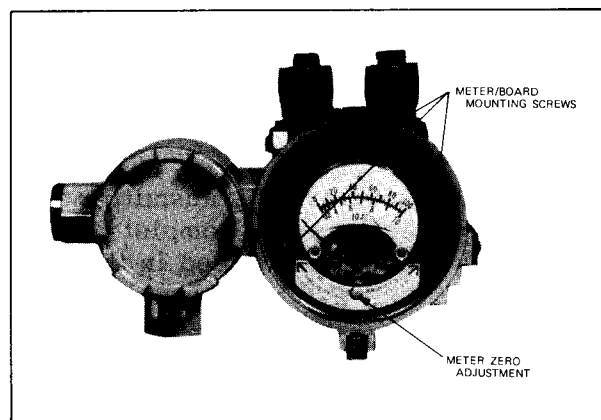

Figure 1. Zero adjustment of meter
2. If the transmitter is with a meter, remove the cover of the meter and adjust the meter pointer to a leftward mark point of the zero scale point by means of the meter adjustment screw. (See Figure 1.)